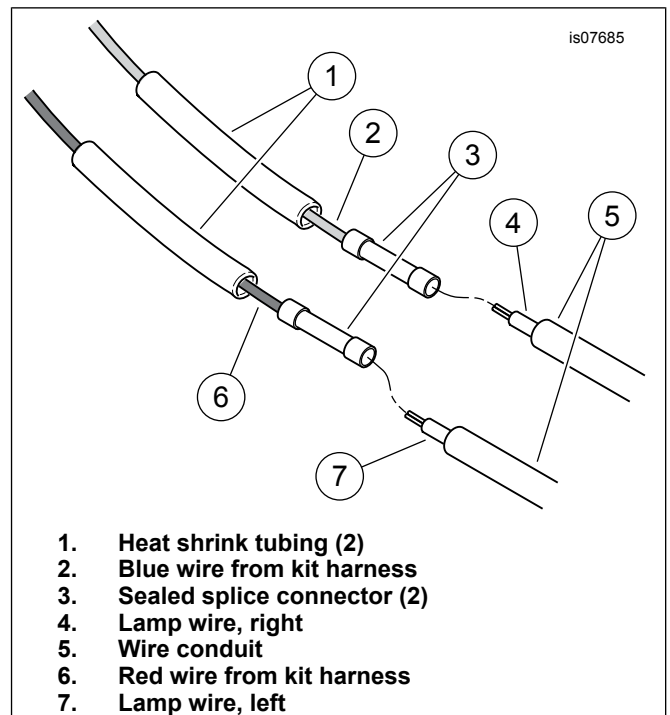

Figure 4. Connect Lamp Wires to New Harness
12. Get a piece of heat shrink tube (13) and a sealed splice connector (14) from the kit. See Figure 4. Slide the heat shrink tubing (1) over the blue wire (2) of the kit harness. Crimp the sealed splice connector (3) to the wire using a Packard Crimping Tool (Part No. HD-38125-8) or equivalent.
13. Bring the right side lamp wire (4) to the connector. Trim the wire, allowing approximately 25 mm (1 in) of the wire to extend past the sealed splice connector. Trim the conduit (5) approximately 38 mm (1.5 in) back from the end of the wire.